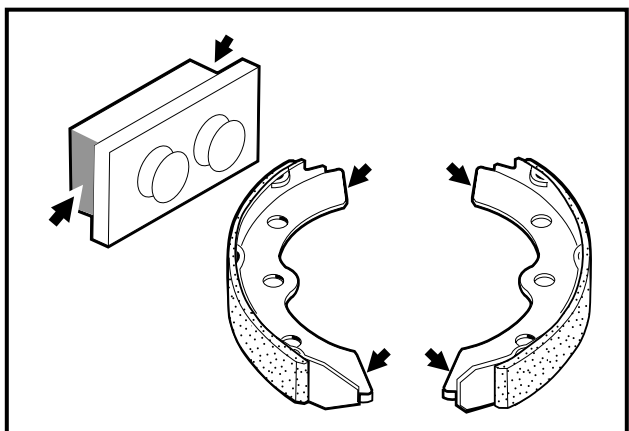

Figure 6-10 Lubricate Shoes
- Use a small brush to carefully apply a light coat of white lithium NLGI #2 grease (Dow Corning® BR2-Plus or equivalent) to each end of both brake shoes and into the slots in the brake shoe mounting block as shown (**Figure 6-10, Page 6-6**). See preceding **WARNING**.